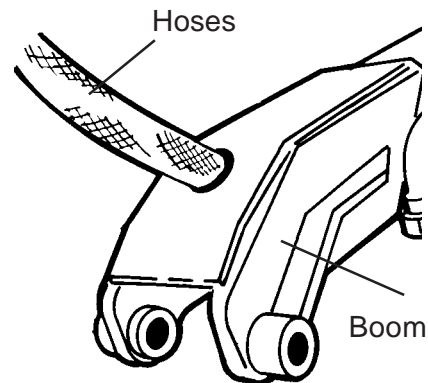

Figure 2
1. Hoses on Booms are shipped folded back inside Boom. Hoses must be pulled out and moved to clear, then routed in the end of Boom before installing Boom on the King Post (See Figure 2)